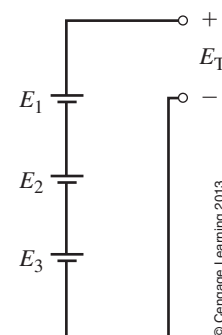

FIGURE 2–33
38. The battery of Figure 2–15 is expected to last 17 h at a current drain of 1.5 A at 25°C . How long do you expect it to last at 5°C at a current drain of 0.8 A?
39. The battery of Figure 2–15 is rated at 81 Ah at 5°C . What is the expected life (in hours) at a current draw of 5 A at -15°C ?
40. The digital voltmeters of Figure 2–34 have autopolarity. For each case, determine the readings.
41. The current in the circuit of Figure 2–35 is 9.17 mA. Which ammeter correctly indicates the current? (a) Meter 1, (b) Meter 2, (c) both.
42. Redraw the circuit of Figure 2–35 using schematic symbols for ammeters instead of multimeter pictorials.
43. Current in the circuit of Figure 2–36 is 7 A. What are the expected readings for Meter 1 and Meter 2?
44. What is wrong with the statement that the voltage through the lamp of Figure 2–24 is 70.3 V?
45. What is wrong with the metering scheme shown in Figure 2–37? Fix it.